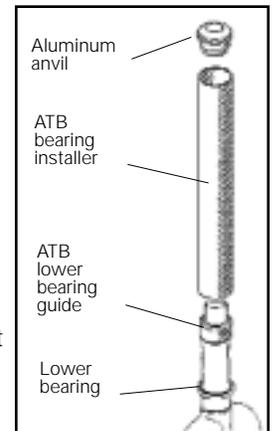

Fig. 54
15. Place the **ATB lower bearing guide** over the end of the steerer. (Fig. 54)